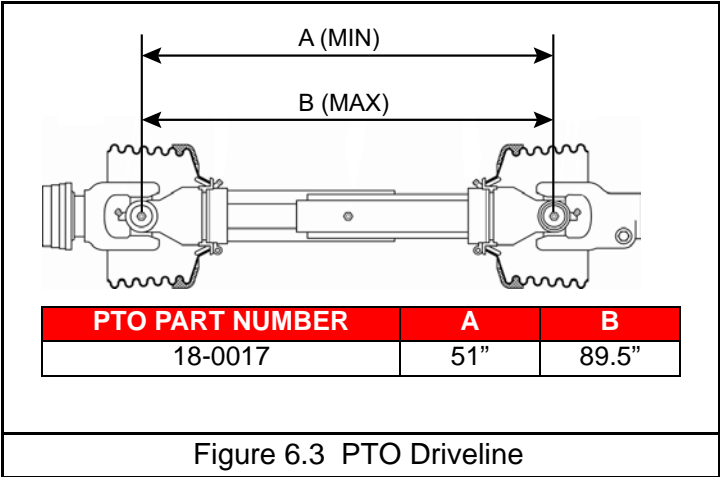

Figure 6.3 PTO Driveline
With initial hook-up to your implement, test PTO travel by turning equipment in both directions observing the minimum (A) and maximum (B) travel dimensions as shown, Figure 6.3.